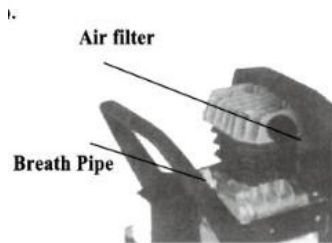

Fig.3
- 1) Put the cover off first and put on the breath pipe and air filter before running the compressor(Fig.3)